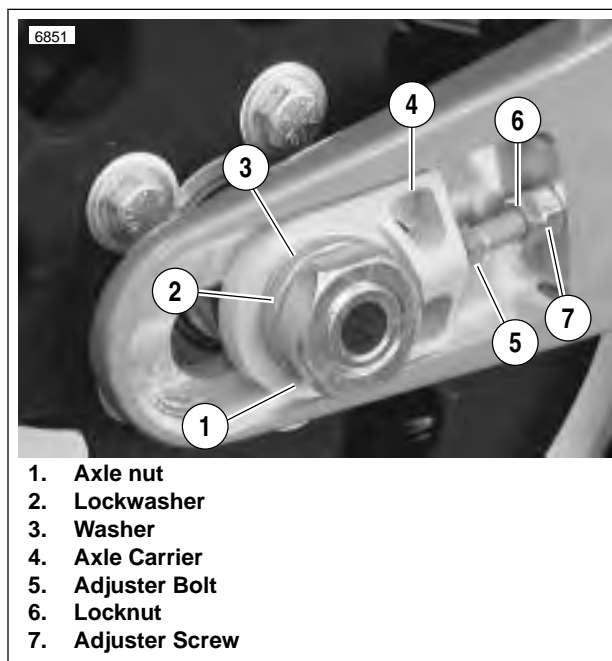

Figure 6-7. Rear Axle, Right Side
8. See Figure 6-7. Remove rear wheel.
- a. Remove rear axle nut (1) (metric), lockwasher (2), washer (3) and right side axle carrier (4).
- b. Hold axle adjuster bolt (5) with a 5/16 in. wrench. Loosen locknut (6) and axle adjuster screws (7). Repeat on left side.